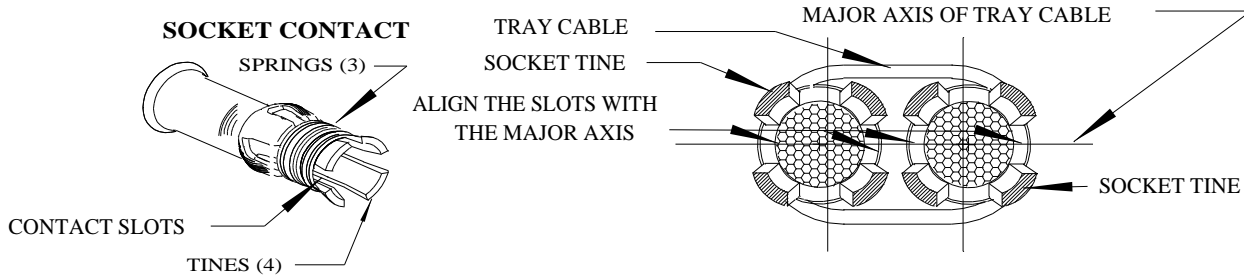

Figure 1 – Alignment of Socket Contact Slots with the Major Axis of Tray Cable
- 4) For socket contacts, position the crimp barrel of the color coded socket contact onto the conductor so that the four slots in the socket contact are aligned with the major axis of the tray cable. See Figure 1. For pin contacts, position the crimp barrel of the color coded pin contact onto the conductor.